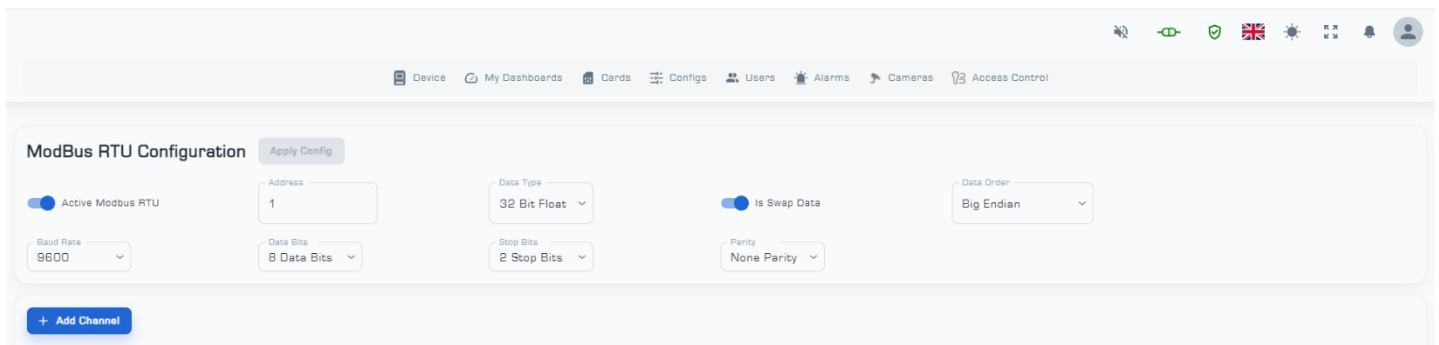
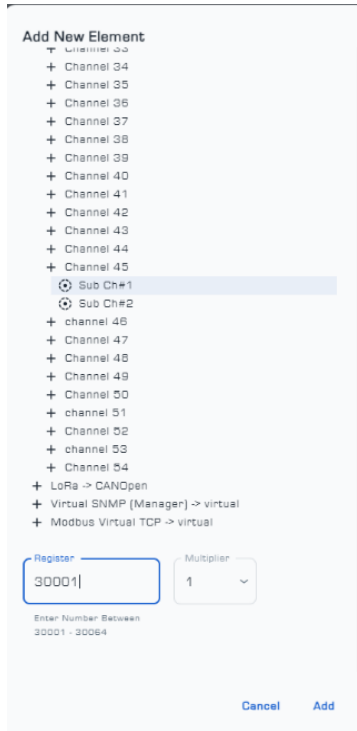

Figure 49: Modbus RTU Settings Page
Figure 50: Channel Linking to Modbus Protocol Page
■ In the 'Modbus RTU' submenu, as shown in Figure 49, you can activate or deactivate the Modbus module, set the address, configure data type, adjust data byte swap, and specify whether the data transmission is Big-endian or Little-endian. After making changes, it is necessary to select the 'Apply Config' option to save the changes. To add one of the input channels to the Modbus protocol, after selecting the '+Add Channel' option, a window will appear to enter the card, channel, register address, and multiplier, as shown in Figure 50.